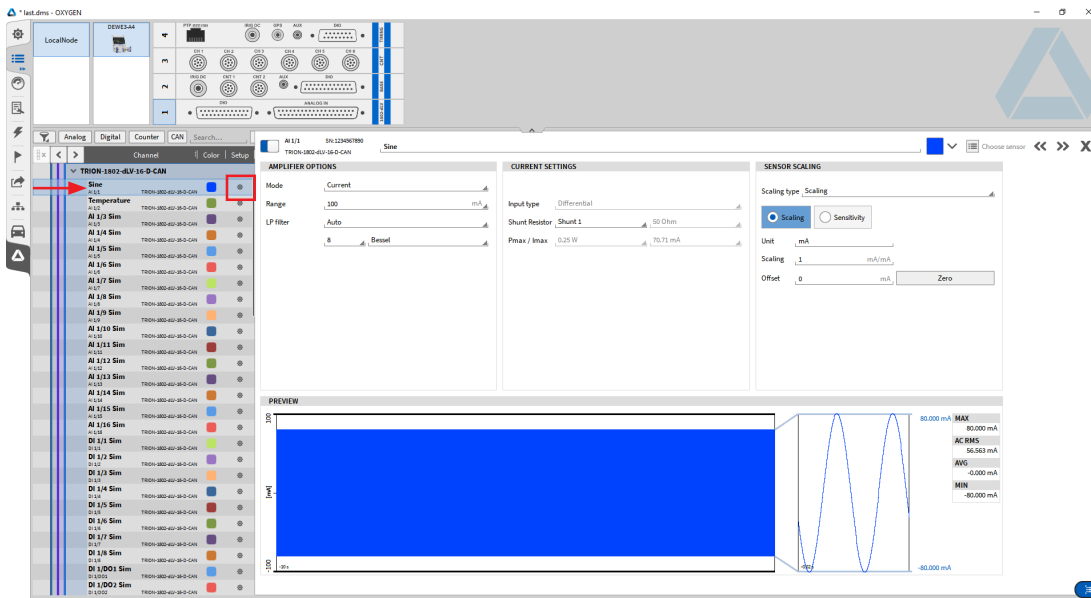

Fig. 27: Changing channel settings
2. Alternatively, the channel settings will also open by clicking on the gear button (see Fig. 27).